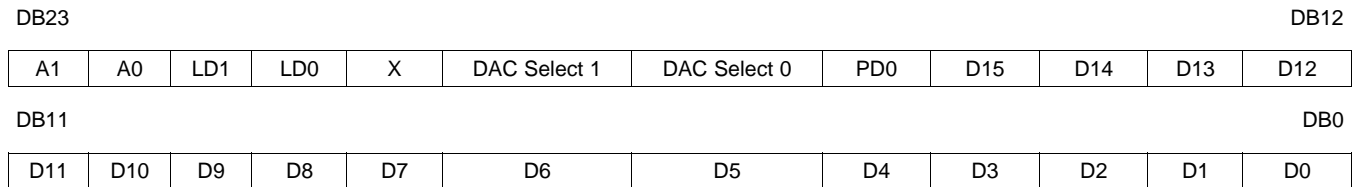

Figure 49. DAC8554 Data Input Register Format
The input shift register (SR) of the DAC8554 is 24 bits wide, as shown in Figure 49, and is made up of 8 control bits (DB23–DB16) and 16 data bits (DB15–DB0). The first two control bits (DB23 and DB22) are the address match bits. The DAC8554 offers additional hardware-enabled addressing capability allowing a single host to talk to up to four DAC8554s through a single SPI bus without any glue logic, enabling up to 16-channel operation. The state of DB23 should match the state of pin A1; similarly, the state of DB22 should match the state of pin A0. If there is no match, the control command and the data (DB21...DB0) are ignored by the DAC8554. That is, if there is no match, the DAC8554 is not addressed. Address matching can be overridden by the broadcast update, as will be explained.